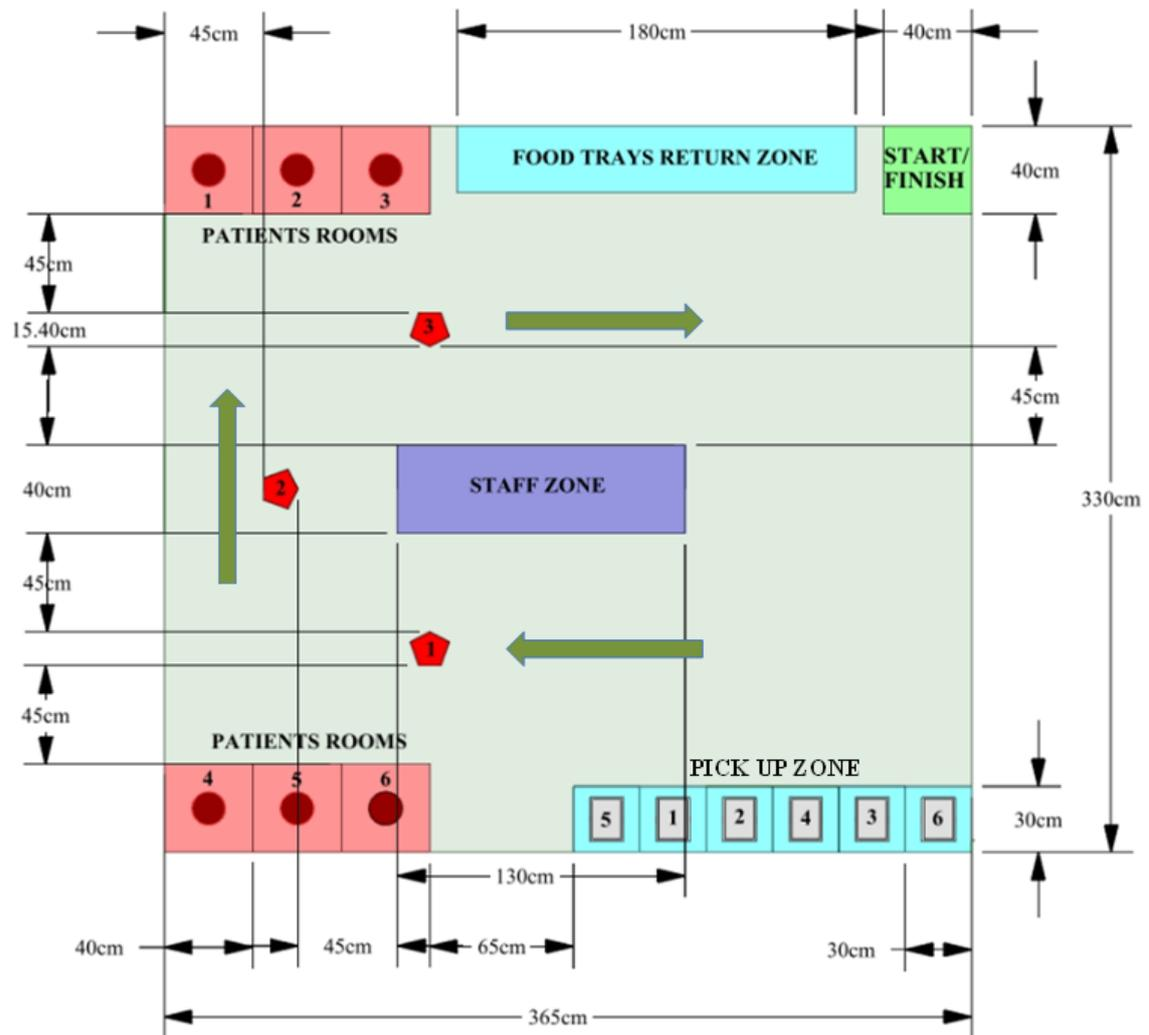

Figure 3. Top view of the robot's operation zone for Stage 2.
1. Robot performance during the rounds on a scaled field. The details of the competition rounds are given below. The field set up for the competition rounds is shown in Figure 3.
- d. Strategies to optimize the time for Food Trays deliveries and return to the Food Trays Return Zone (RZ);